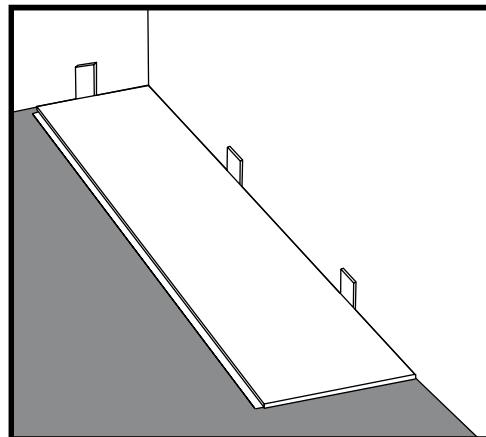

Figure 2
- Insert 1/4" spacers for expansion along the edges and ends where the planks meet the wall. (See figure 2.)